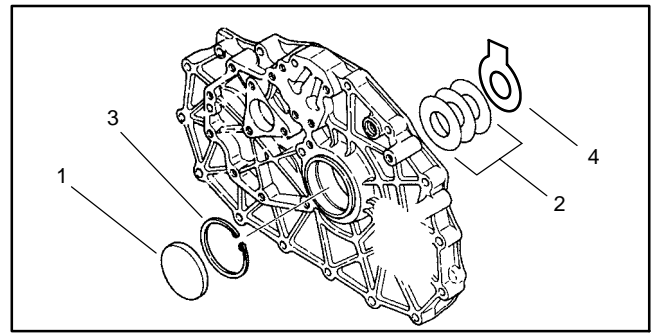

Figure 94
NOTE: The thickest shim of the shim set (item 2) should be positioned against the snap ring (Fig. 94).
23. Insert tabbed shim (item 4) against the bearing. Insert shim set (item 2) against the tabbed shim. Use thickest shims in set possible, that will permit installation of the snap ring. (Fig. 94 and 95).